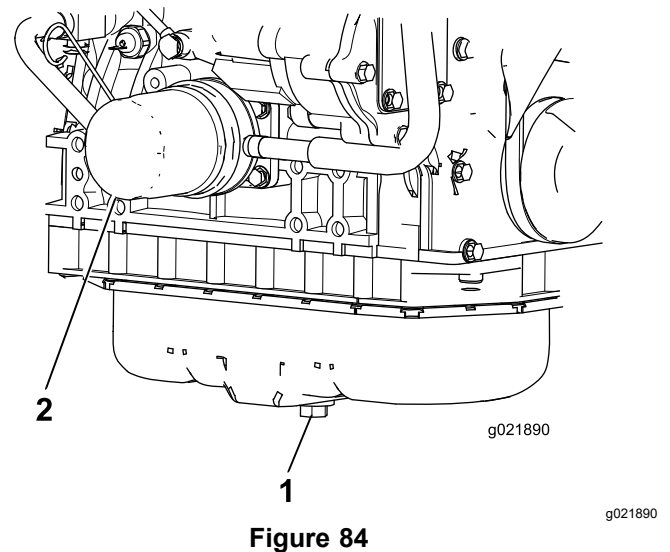

Figure 84
1. Remove the drain plug and let the oil flow into a drain pan (Figure 84).
3. Remove the oil filter (Figure 84).